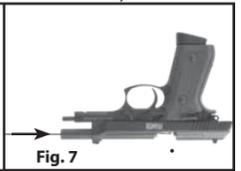

Fig. 7
4. Use a ramrod (sold separately) to gently push out the BB towards the muzzle rear sight until the BB comes out (Fig. 7).